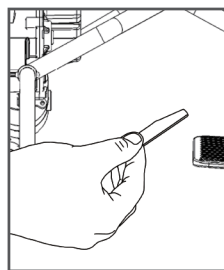

Figure 23
► Folding steps: (see Figures 23, 24 and 25)